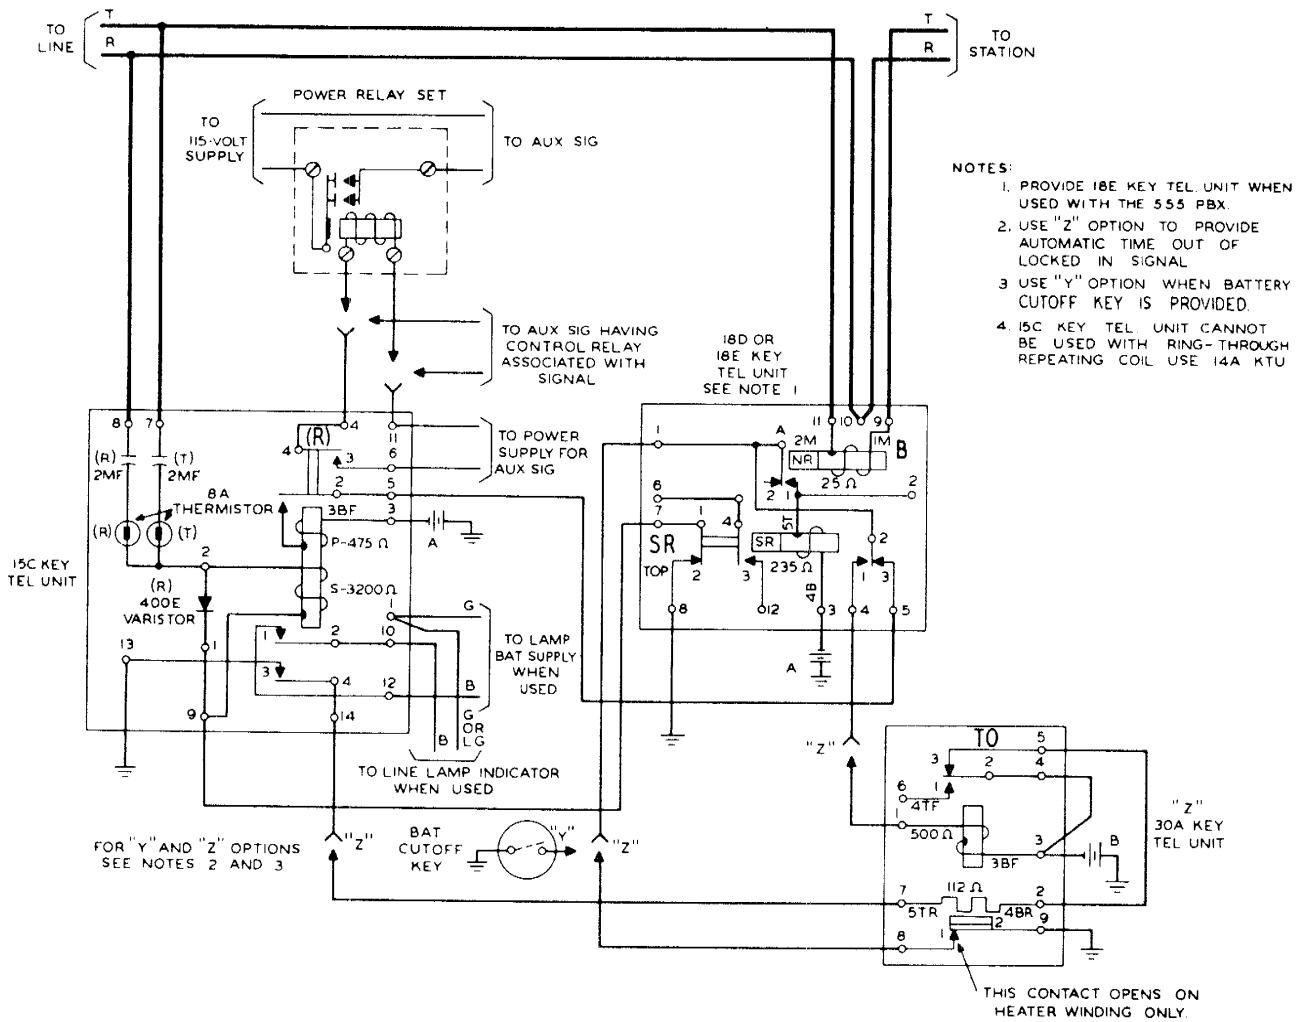

Fig. 8 - Connections and Circuit Operation for Continuous Auxiliary Signals
**3.01** The circuit operates as follows (Fig 8):